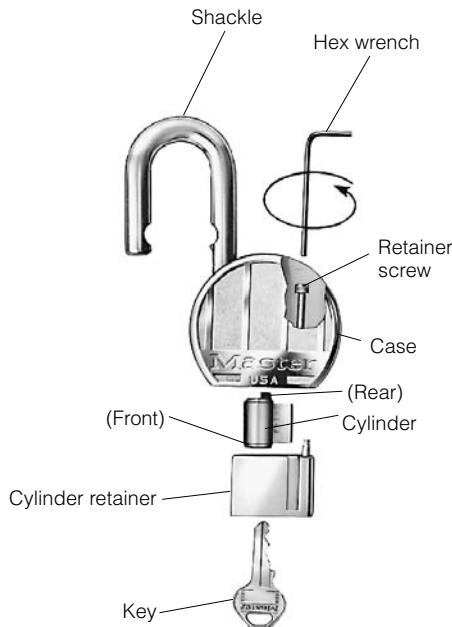

Figure 12.14 Exploded view of a solid-body Master padlock. (Master Lock Company)
2. Slide the cylinder retainer out (Fig. 12.14). Turn the retainer upside down to remove the cylinder.